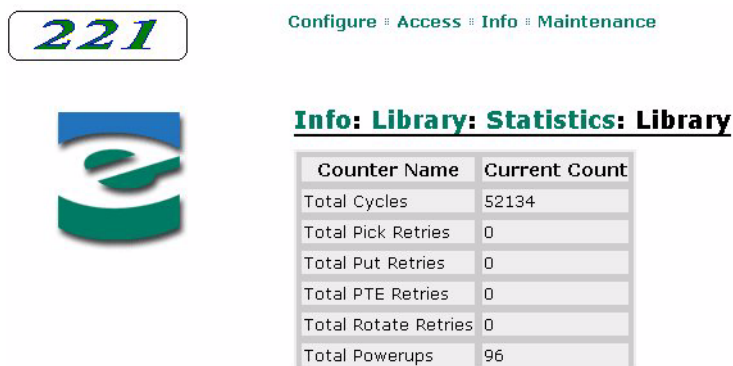

Figure 6-27 Remote management utility – Library Statistics page
4. Click on Library Statistics. A page similar to Figure 6-27 appears.